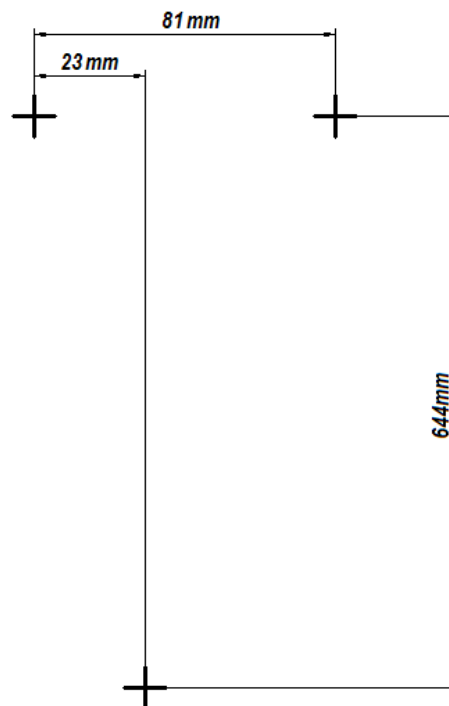

Fig. 2. Diagram of spacing between Ø10 openings necessary for attaching the pump control unit
- Attach the pump and control unit to the wall using 3 anchor screws in spacing as presented in **Figure 2**.